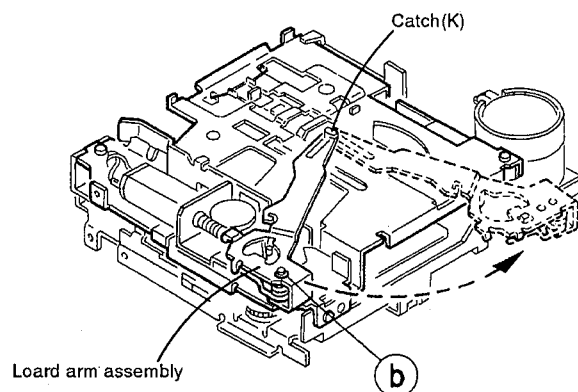

Fig. 2-9
1. Using tweezers, detach the Mylar washer ③ securing the load arm assembly and pull out the load arm assembly. (Fig. 2-9)
2. Shift the load arm assembly counterclockwise. (Fig. 2-9)
3. Remove the load arm assembly from the catch (K). (Fig. 2-9)